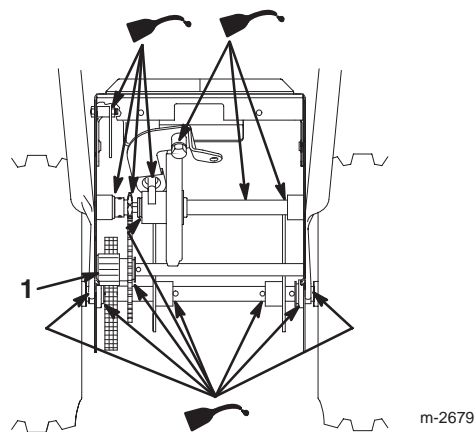

Figure 30
8. Lightly grease the axle gear (Fig. 30).
6. Lightly lubricate the snowthrower with light oil as shown in Figures 30 and 31.